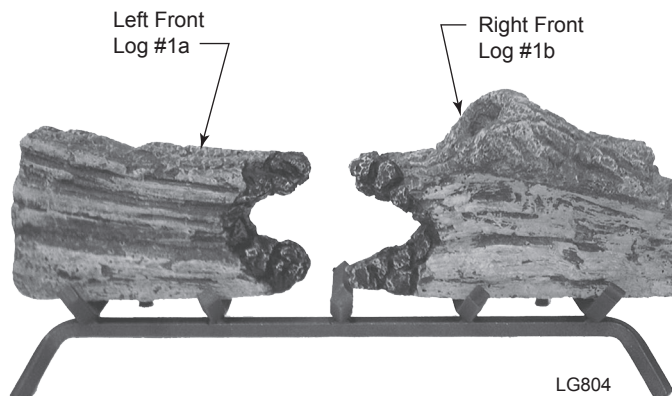

Figure 35 -
1. Place Left Front Log #1a on front left of grate. *Figure 35*
2. Place Right Front Log #1b on front right of the grate. *Figure 35*